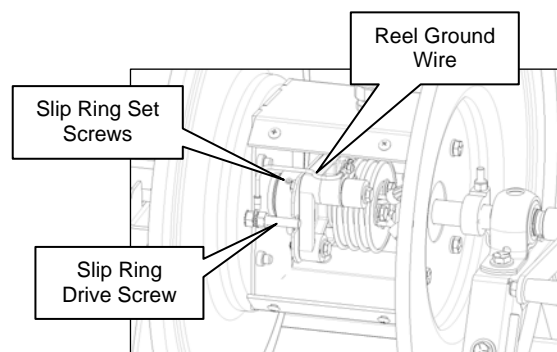

Figure 2
- Inlet cord is most easily installed with the slip ring assembly removed from the reel. To remove the slip ring assembly from the reel, loosen the two set screws that hold the slip ring assembly on the axle as shown in **Figure 2**.
- The slip ring mounting plate has a cutout, which must be aligned to the slip ring drive screw (see **Figure 2**), to properly operate slip ring assembly.
- To properly ground reel, attach a ground wire from the ground terminal (should be terminal #2, green), to slip ring drive screw using suitable ring terminals as shown in **Figure 2**.
- Loosen slip ring set screws as shown in **Figure 2**.